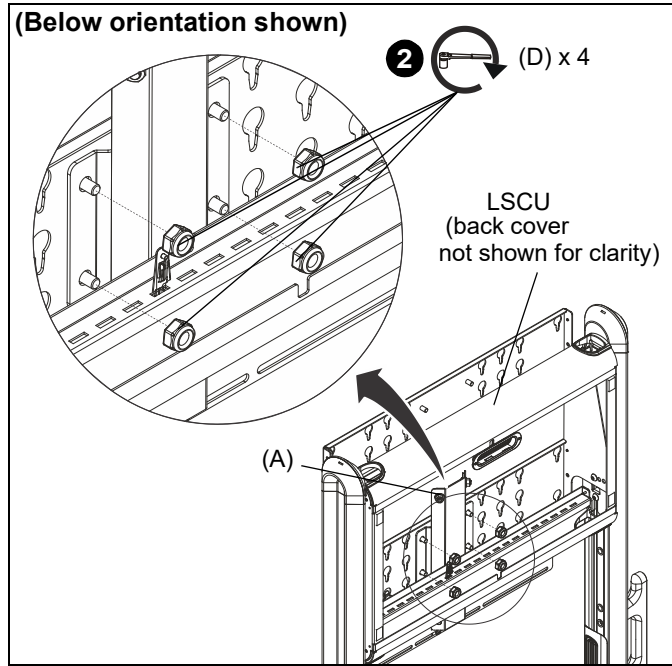

Figure 3
1. Use four M8 hex nuts (D) to secure attachment plate (A) to designer cart. (See Figure 3)